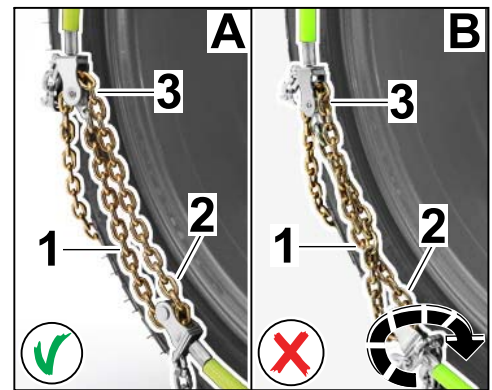

Figure 7
2.2.2 Check that the tensioning chain at the tensioning point and deflection roller (end of spring steel clip on inside of wheel) (⇒ *Figure 7-A-*) is running parallel and is **NOT** twisted (⇒ *Figure 7-B-*).
Turn deflection roller for spring steel clip if necessary (⇒ *Figure 7-arrow-*).